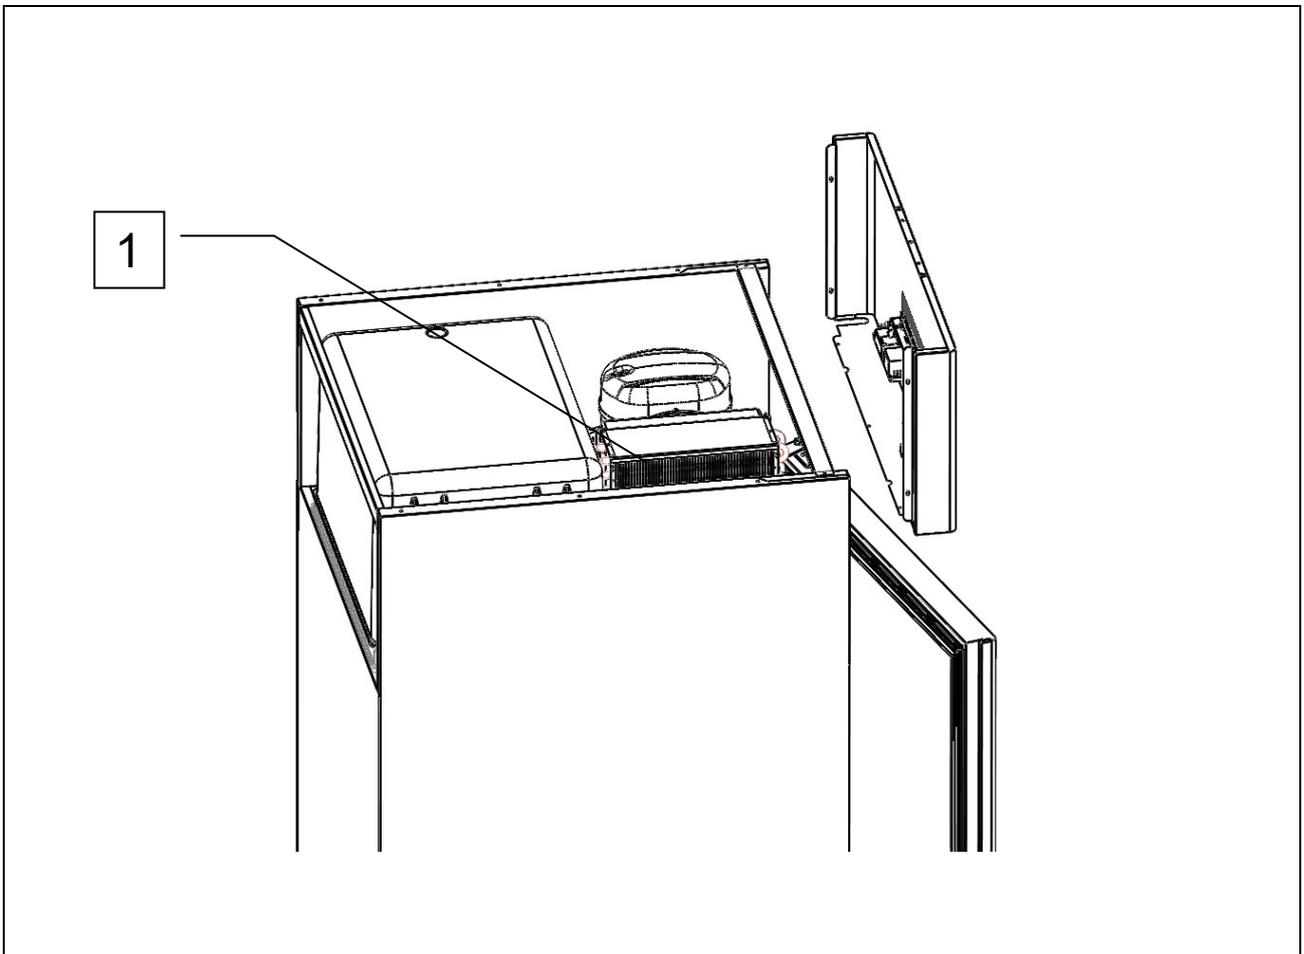

Fig. 9
For trouble-free efficient appliance operation, the air-cooled condenser (ref. 1 fig. 9) must be kept clean so that air circulates freely. Cleaning must be done once every 60 days at the most. Use non-metallic brushes to clean, ensuring that all the dust and fluff is removed from the fins. We recommend using a vacuum cleaner so as to avoid dust being dispersed into the environment. If there are greasy deposits, remove them using a small brush soaked in alcohol.